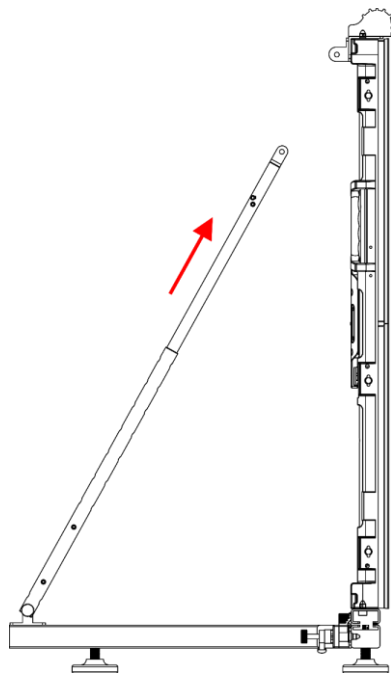

Fig. 18
- 01) Slide out the inner part of the **extension tube (E)** (Fig. 18).